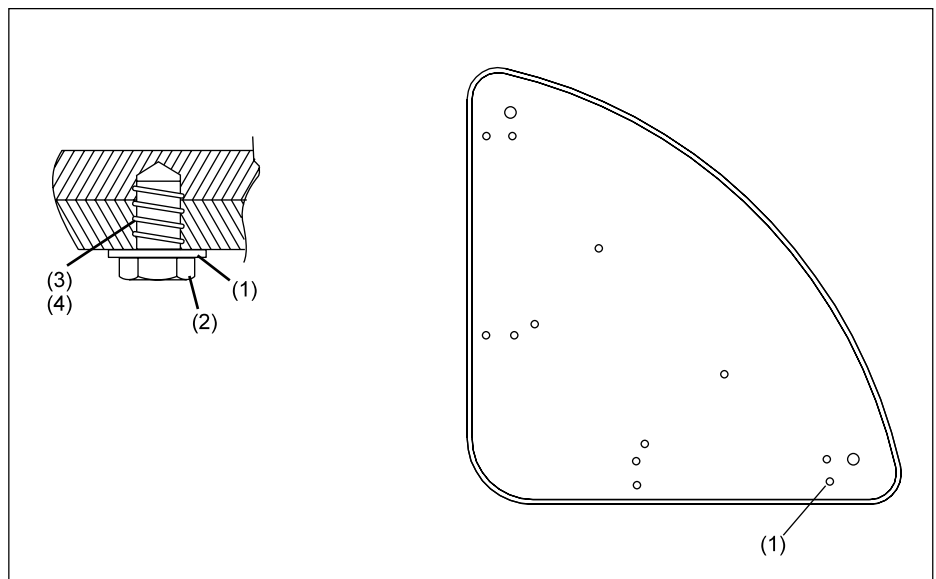

Figure 11. Install Threaded Inserts
- Install 3/8-16 threaded inserts into the eight attaching holes drilled in the triangular table top at the factory as shown in *Figure 11*.
- Align the two table mounting plates with the threaded inserts and secure them to the table top with eight 3/8-16 x 3/4" button head cap screws. Refer to *Figure 11*.